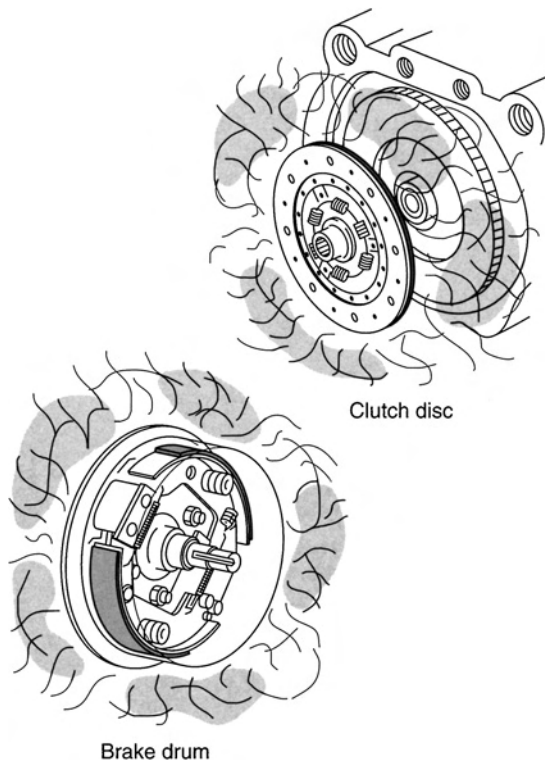

Fig. 1.40 Heat is generated by dry friction
- **Dry friction** This is friction between two materials without any type of lubrication. It can generate a large amount of heat (Fig. 1.40).